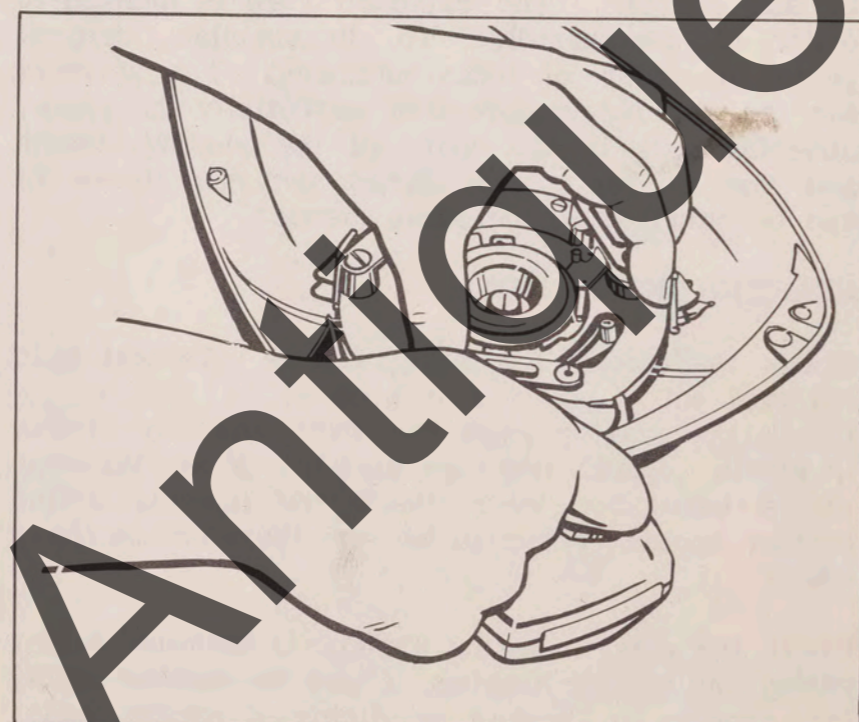

Figure 7-5. Winding Spring
f. Wind up starter spring until tight. The simplest way to do this is to invert starter housing on a flat surface, grasp pulley securely, and turn starter housing in a clockwise direction until spring is tight. (See figure 7-5.)